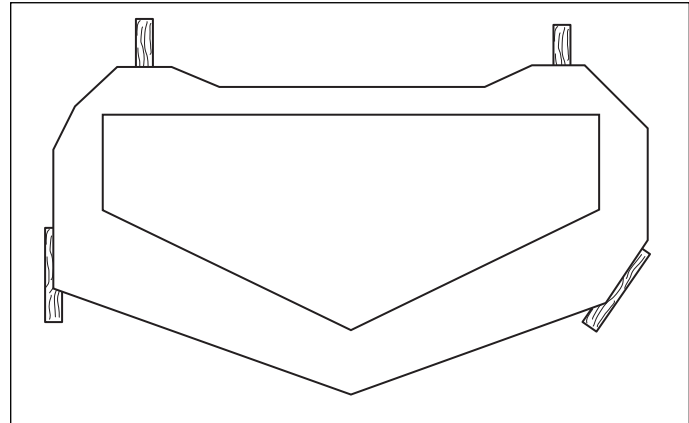

Figure 41. 2 x 4 Locations
3. Place 2 x 4 blocks under each corner of the mower deck with the 3-1/2" sides being vertical. Place a 1/4" (0,64 cm) thick spacer on top of the rear 2 x 4 blocks. See Figure 41.